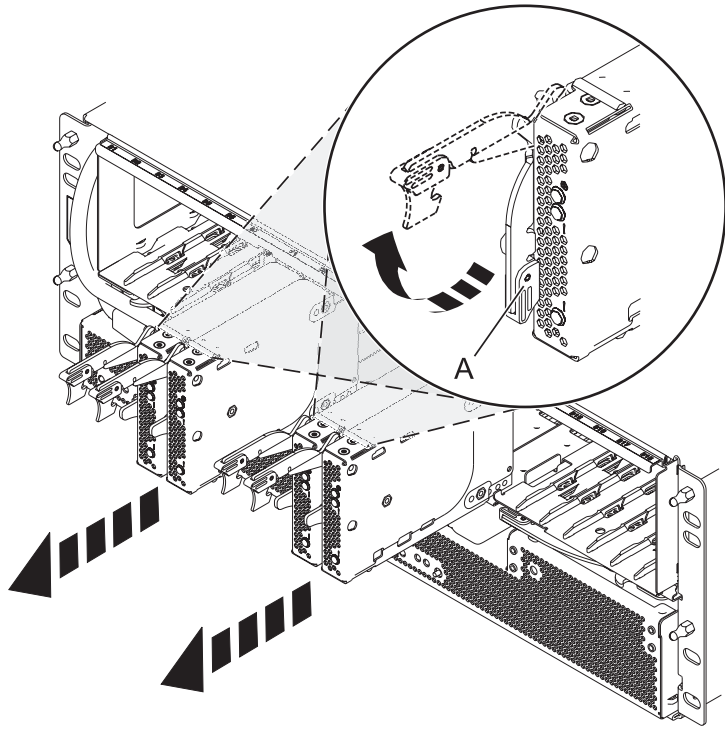

Figure 82. Removing the port card from the backplane
5. Remove the port cards and fillers as shown in Figure 82 on page 111.